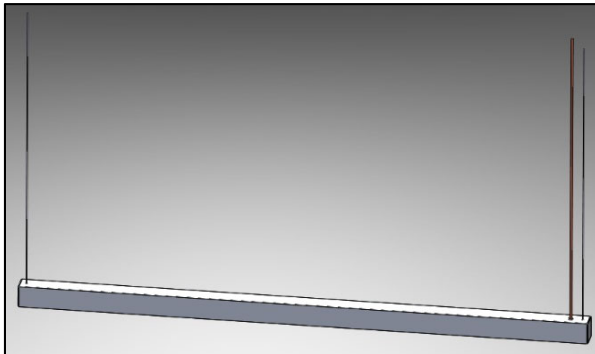

FIG. 2 - LINER LUMINAIRE
1. LINER LUMINAIRE. (Pre-assembled as shown in FIG. 2)